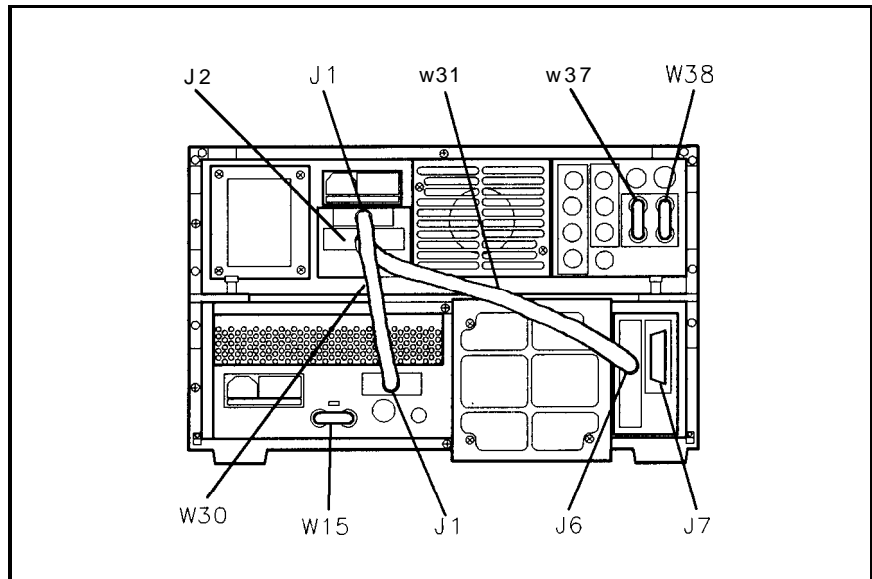

Figure 2-1. Rear-Panel Cable Connections
4. Connect cable W31 between IF-Display section J2 and RF section J6. See Figure 2-1.
10. Connect cable W31 between IF-Display section J2 and RF section J6. See Figure 2-1 1.
14. On each power-line module, check the voltage selector card for the proper ac line voltage. The card's voltage setting should be visible on the card. See Figure 2-1 1. If you need to select a different ac line voltage setting, perform the following: